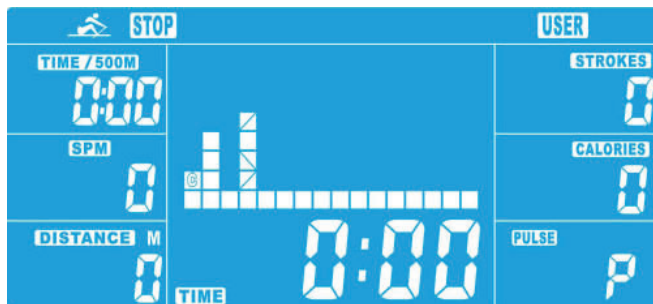

Figure 15
2. Press the UP or DOWN button to set the resistance level for each section (fig. 15). Confirm every entry with the ENTER button. Press and hold the MODE button when you are done.